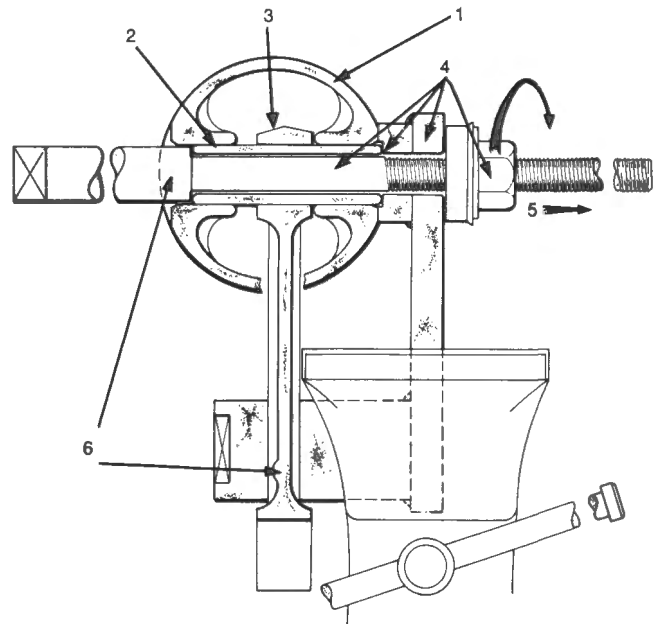

Fig. D-83
- 5 Position the tool screw (threaded end) through the gudgeon pin, connecting rod and the short boss of the tool and fit the nut and thrust bearing assembly to the screw. Refer Fig. D-83.